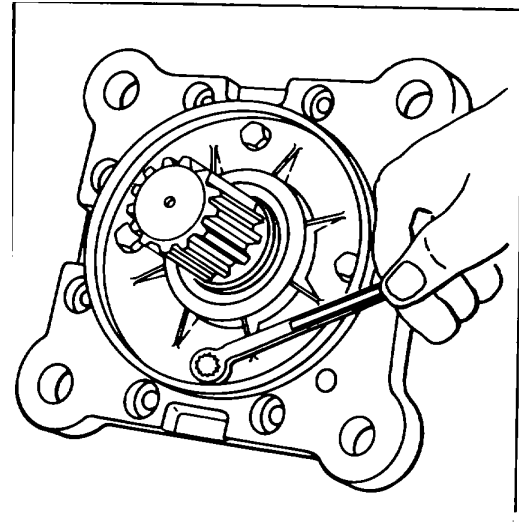

Figure 209.
5. Wrap slim stock or other thin material around shaft spline and carefully slide shaft seal (59) and retainer (60) Into place over motor shaft (1).
6. Secure seal retainer (60) with hex bolts (48) and Lock washers (47) Torque to 132 In. lbs. See Fig 209.